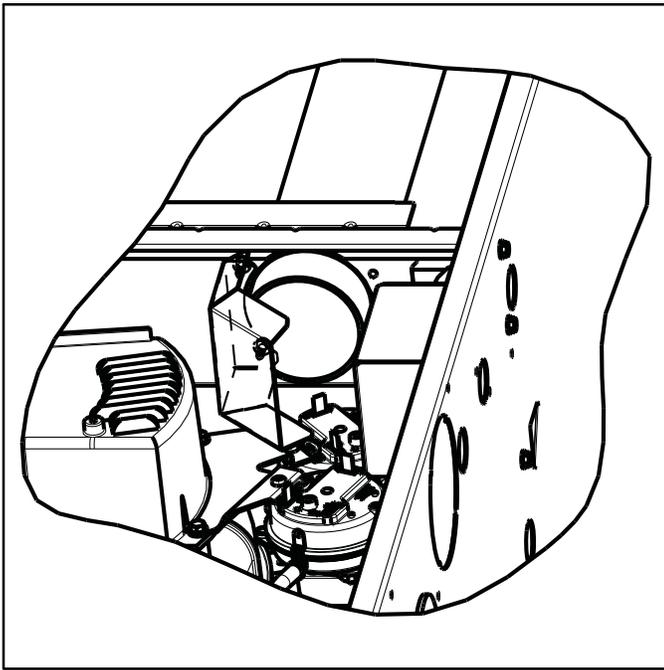

Figure 6 – Rain Shield Installation
9. If installing this kit into a 14 or 17 inch wide furnace, a rain shield is required. Attach the rain shield to the blower shelf seal assembly for the combustion air pipe. Alignment of the rain shield is shown in Figures 6 and 7.